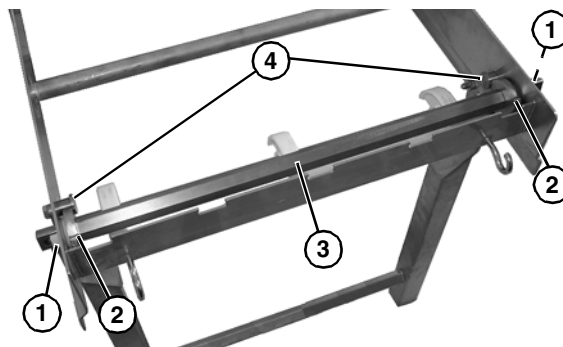

Figure 20
4. Slide the tip up sleeves (**Figure 20, item 1**) and stop keys (**Figure 20, item 2**) outward on hex shaft assembly (**Figure 20, item 3**) until the sleeves seat in the holes of the frame and stop keys are seated against frame stops (**Figure 20, item 4**).